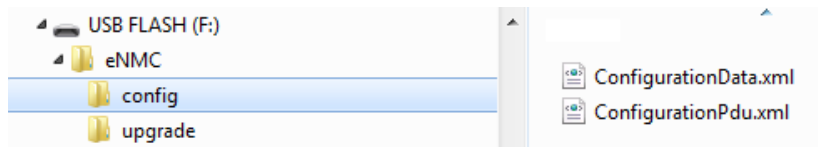

Figure 57. Verify Files at USB Flash Drive Root
1. Verify that the USB Flash Drive contains the ConfigurationPdu.xml file and ConfigurationData.xml files in eNMC/config directory of USB flash drive (see Figure 57).